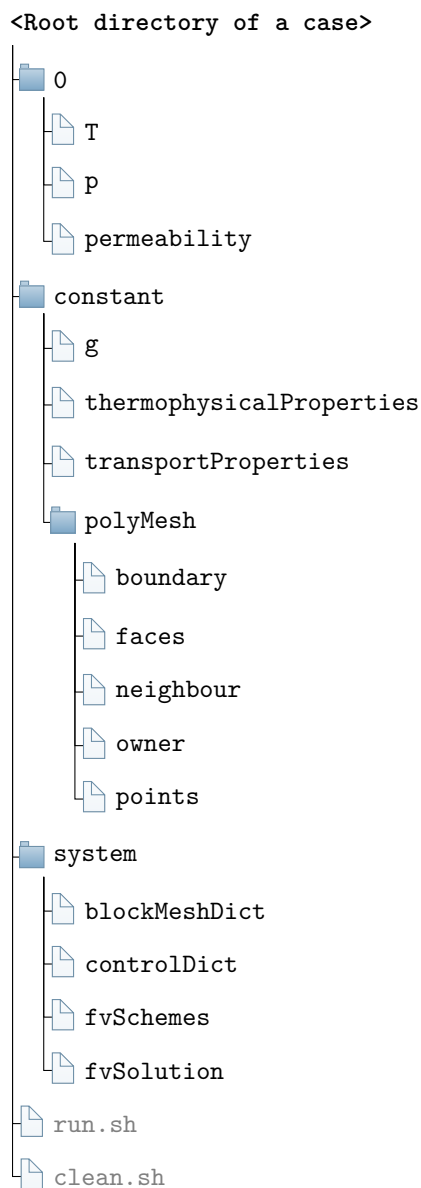

Fig. 4.5: Directory structure of a case of `HydrothermalFoam`.
A model case of `HydrothermalFoam` basically consists of **time directory** (e.g. 0 for initial state), **constant** and **system** directory (see Fig. 4.5). The sub-directory of **polyMesh** in **constant** folder consists mesh files, which are generated by meshing utility, e.g. `blockMesh`, `gmshToFoam`, `snappyHexMesh`, ..., see Section 4.1.
- **Boundary conditions** (`boundaryField`). The boundary patch name, e.g. `bottom`, is defined in mesh file of `constant/polyMesh/boundary` (see Fig. 4.5 and Section 4.1). The available boundary conditions and their usage can be found in Section 3.2.
For `HydrothermalFoam`, the `constant` directory always contains three files named `g`, `thermophysicalProperties`, `transportProperties` respectively, and one folder named `polyMesh` (see Fig. 4.5).
As shown in Fig. 4.5, the `system` directory contains three compulsive directory files of `controlDict`, `fvSchemes` and `fvSolution`, and optional dictionary file, e.g. `blockMeshDict` for OpenFOAM built-in meshing utility `blockMesh`.